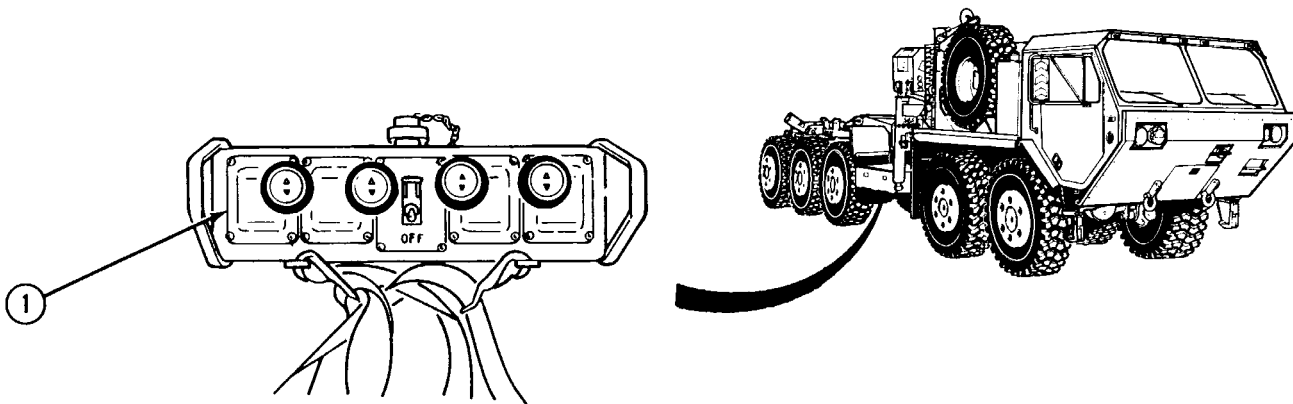

Figure 1-22. Remote Controls
c. Remote Controls. The remote control system (Figure 1-22) is designed to operate the spools of the directional control valve. Remote control is proportionally variable. Remote control (1) is provided with an emergency shutdown capability and designed so that when activated, all remote control crane functions cease and truck speed is reduced to idle. The operator can operate the remote control anywhere within 35 ft. (10.7 m) of the crane base. The controller has multiple functions to match control levers on the fixed control except for the mast and outrigger controls.